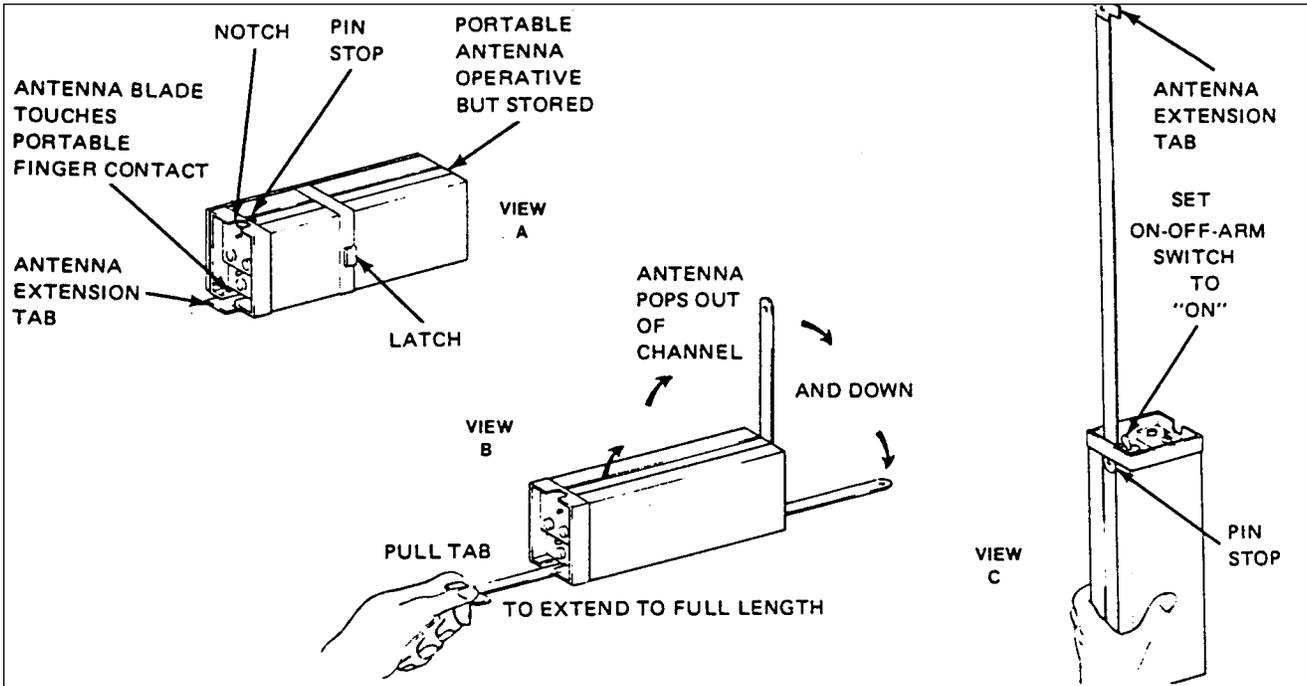

Fig. 23-4. ELT Portable Folding Antenna (Narco)
**BATTERY REMOVAL AND INSTALLATION (NARCO) (Figures 23-4 and 23-5)**